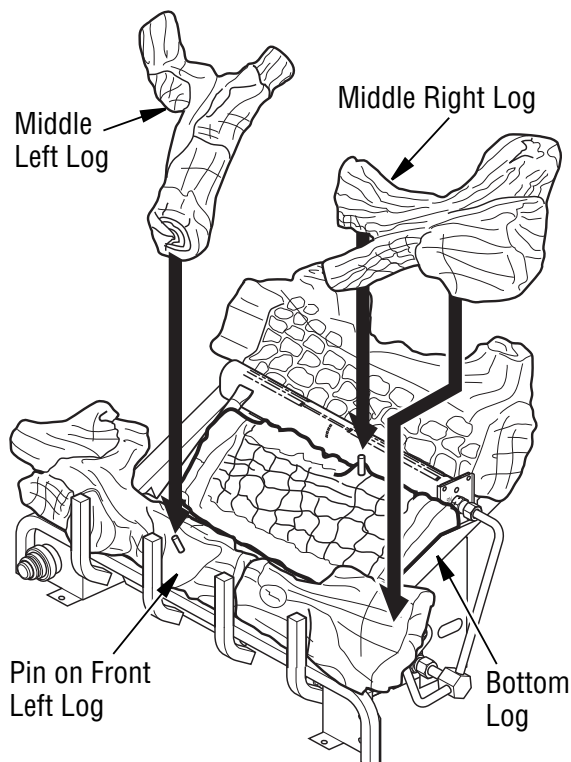

Figure 21 - Installing Log Sets
5. Place middle right log over front right and bottom logs as shown in **Figure 21**.
6. Place middle left log over front left and bottom logs as show in **Figure 21**. Be sure hole in middle left log seats over pin in front left log.